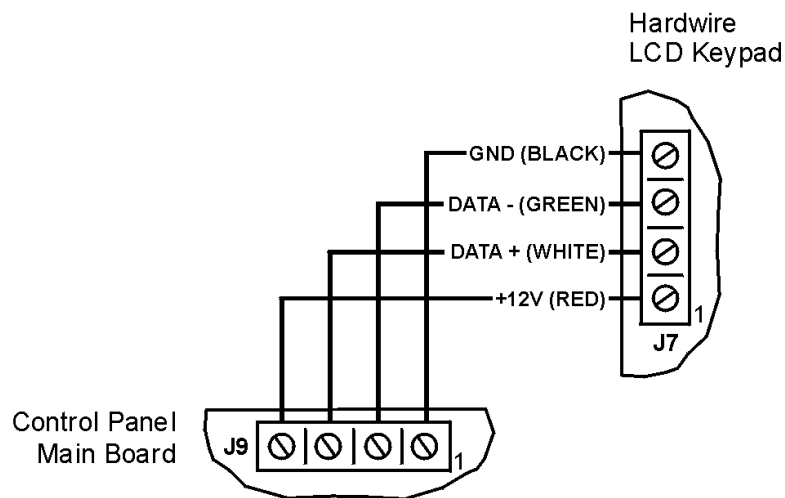

Figure 2.8: Connections for HK855 Hardwire LCD Keypad
6. Connect the terminal block on the keypad to the appropriate terminal block on the control panel's main board as shown in Figure 2.8.